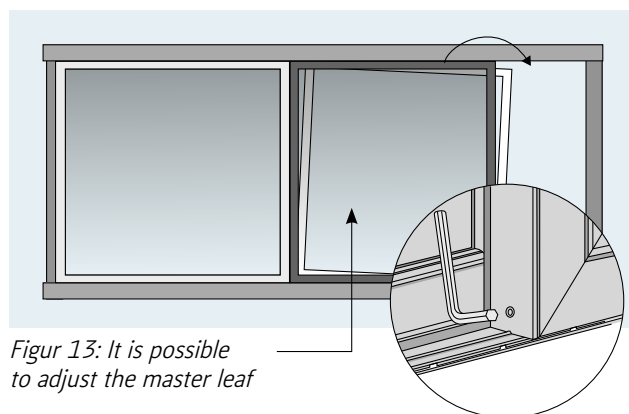

Figure 13: It is possible to adjust the master leaf
20. Locate the adjustment screw behind the plug. Use a 10 mm Allen key to adjust the door by tilting the sash as needed (figure 13).